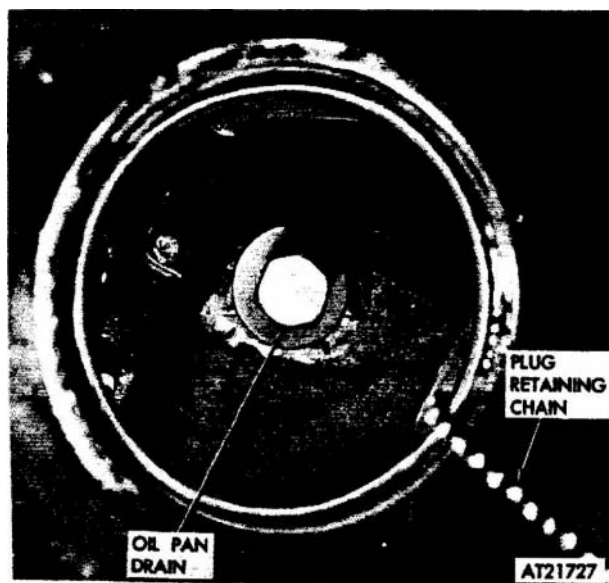

Figure 2-73. Oil pan drain.
(3) Place a suitable container under tractor hull and remove oil pan drain plug. Inspect drain plug for **presence** of metallic particles and chips (fig 2-73). If metallic particles and chips are found, notify support maintenance personnel for corrective action.
(4) Open and secure engine cover (refer to TM 9-2320-242-10).
(5) Replace oil filter element (refer to para 2-38).
(6) Install drain plug in oil pan (fig 2-73).
(7) Remove oil filler cap on rocker arm cover by turning **1/4-turn** counterclockwise, and add 9 quarts of oil in accordance with LO 9-2320-242-12. Replace oil filler cap.